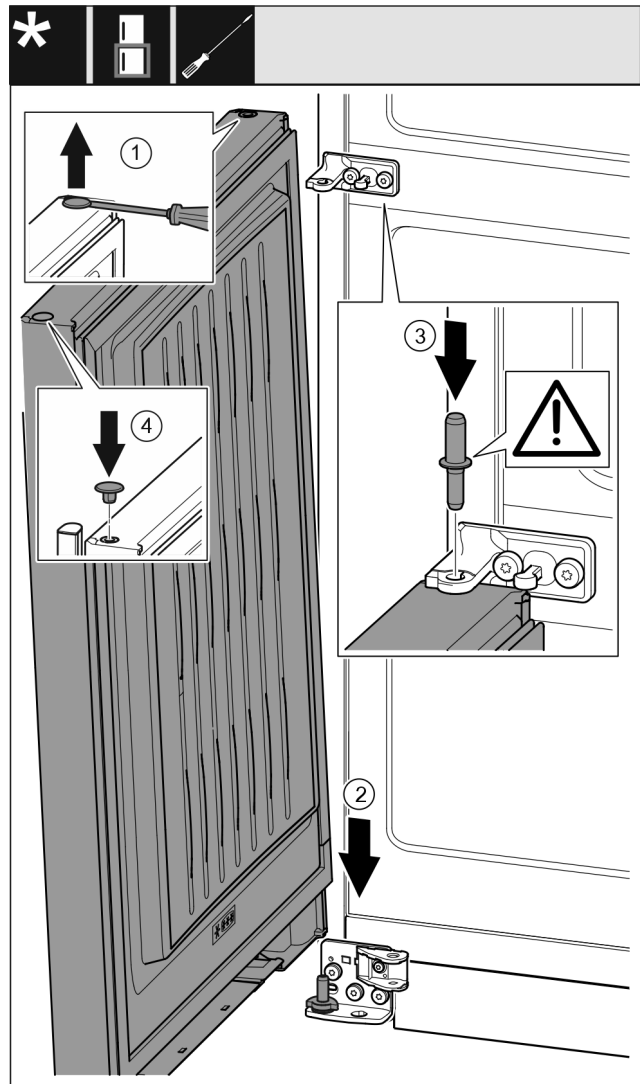

Fig. 57
- Use a slotted screwdriver to lift the plug Fig. 57 (1) carefully and pull it out.
- Lower the door Fig. 57 (2) onto the bottom bearing bolt.
- Insert the centre bearing bolt Fig. 57 (3) through the centre bearing block in the lower door. Ensure that the latching cam is pointing towards the rear.
- Re-insert the plug Fig. 57 (4) on the other door side.